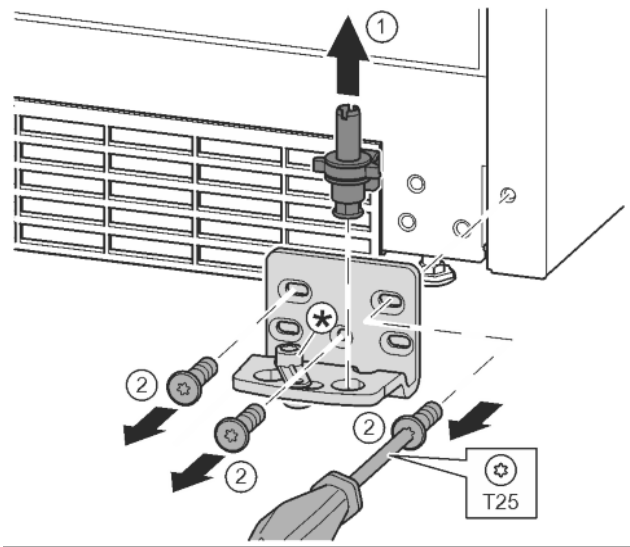

Fig. 11
- ▶ Lift the bearing pin completely upward and remove. Fig. 11 (1)
- ▶ Undo the screws with a T25 screwdriver and remove the bearing bracket Fig. 11 (2)